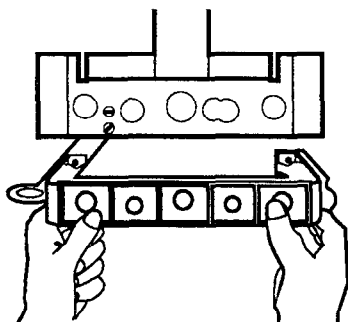

Fig. 21
- Attach plastic jig plate to bottom bracket using 4.6 mm x 10 hexagonal screws provided (fig. 21).
- Fit copper tails and washers to jig plate, the mains water inlet tail (M) is the shorter of the two 15 mm tails.